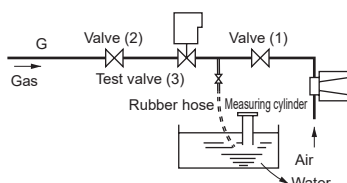

Fig. 3 Test method for the safety shut-off valve
Close valve (1) and connect a rubber hose to the tip of test valve (3). Immerse the tip of the rubber hose in a container filled with water about 10 mm deep. Check for any bubbles when the test valve (3) is opened. If bubbles continue to occur, the safety shut-off valve has leaked. Please repair or replace it. For an accurate measurement of leakage, collect the gas in a measuring cylinder filled with water. (Refer to Fig. 3) (Follow the periodic inspection guide provided in the equipment's technical safety guidelines.)